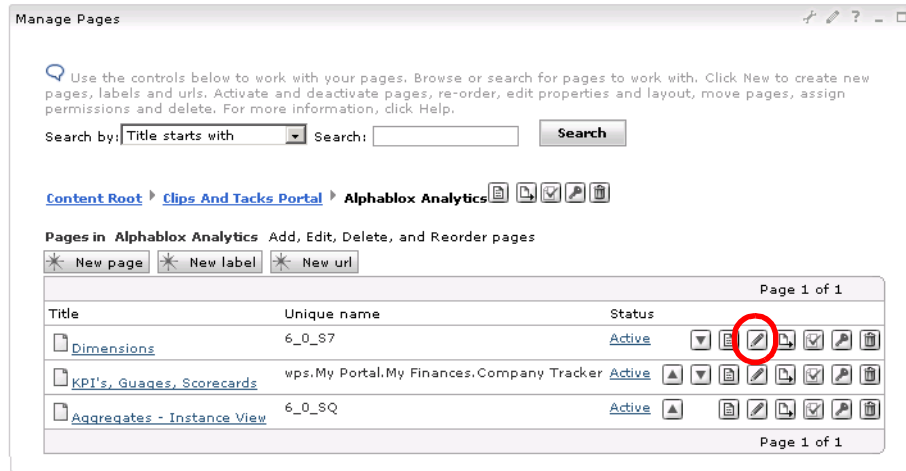

Figure 13-17 Edit a portal page
- ▶ Click the *Edit Page Layout* icon  to add the new portlet (Figure 13-17)